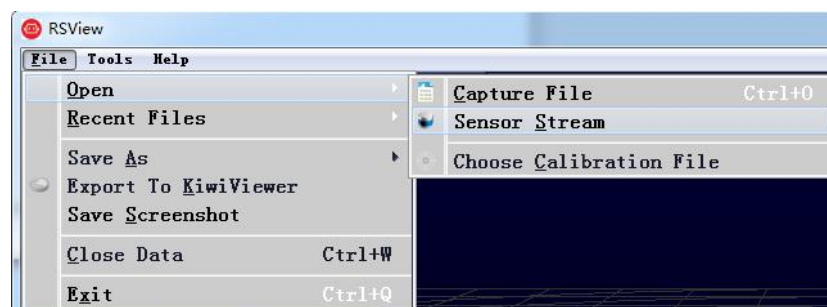

Fig C-1 RSView Open Sensor Stream
3. Click on **File > Open** and select **Sensor Stream** (Fig C-1).